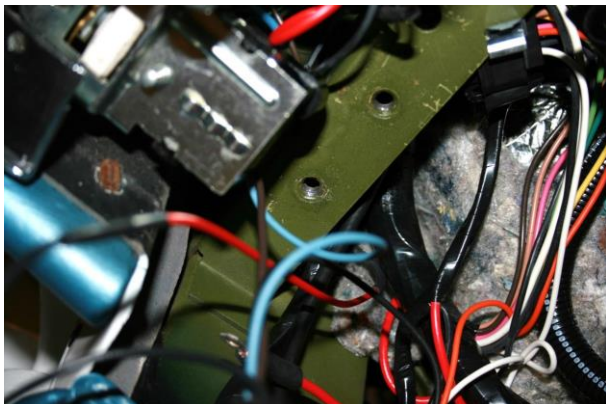
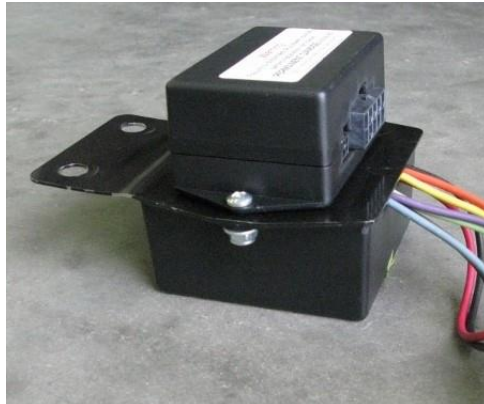

Figure 14 – Locate Module under Dash
Figure 15 – Headlight & Wiper Modules
28. The Detroit Speed Electric Headlight Door Kit Control Module bracket is designed to be mounted to the two threaded holes on the far-left side of the dash just above the driver's side kick panel (Figure 14). If the vehicle has the hood release cable bracket mounted in these holes, remove the two bolts that hold the hood release cable bracket. **NOTE:** If you also have the Detroit Speed wiper kit installed, you can mount both control modules to the same mounting plate. Mount both modules back-to-back on the mounting plate using the provided 8-32 hardware (Figure 15). Do not overtighten.